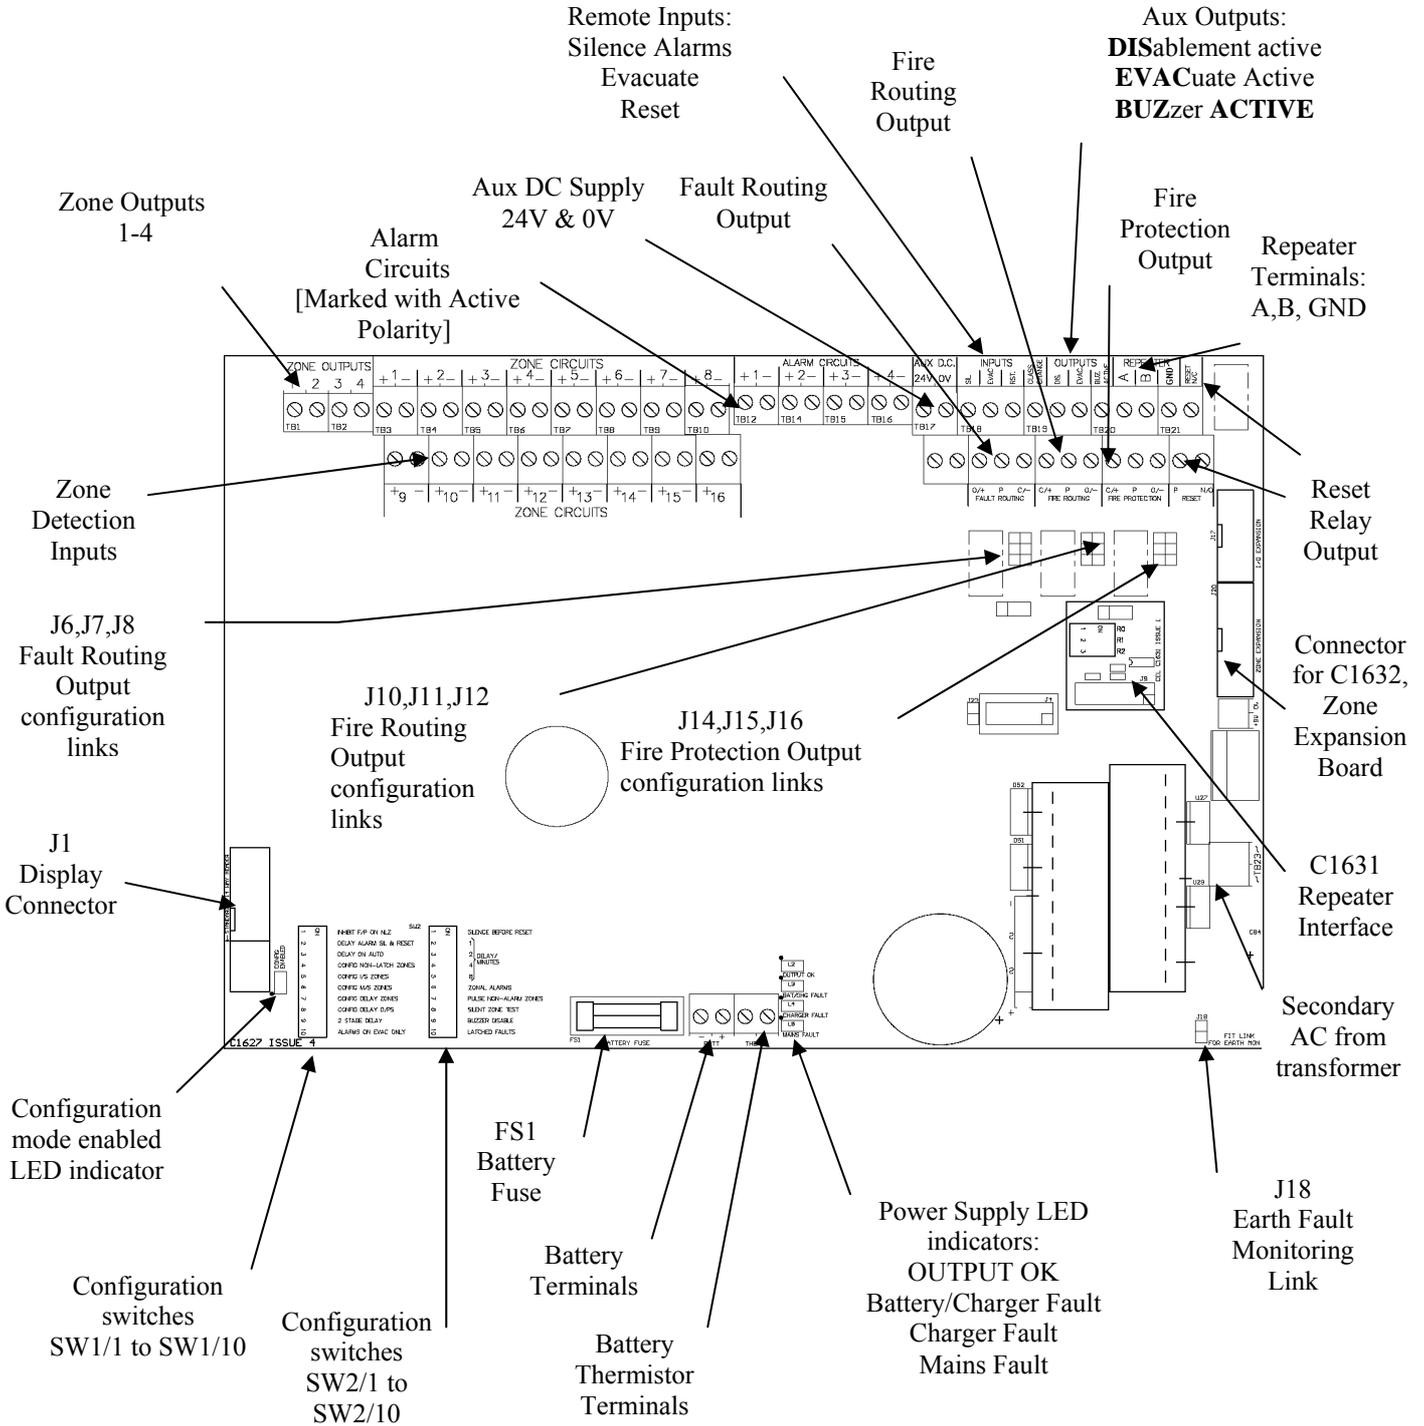
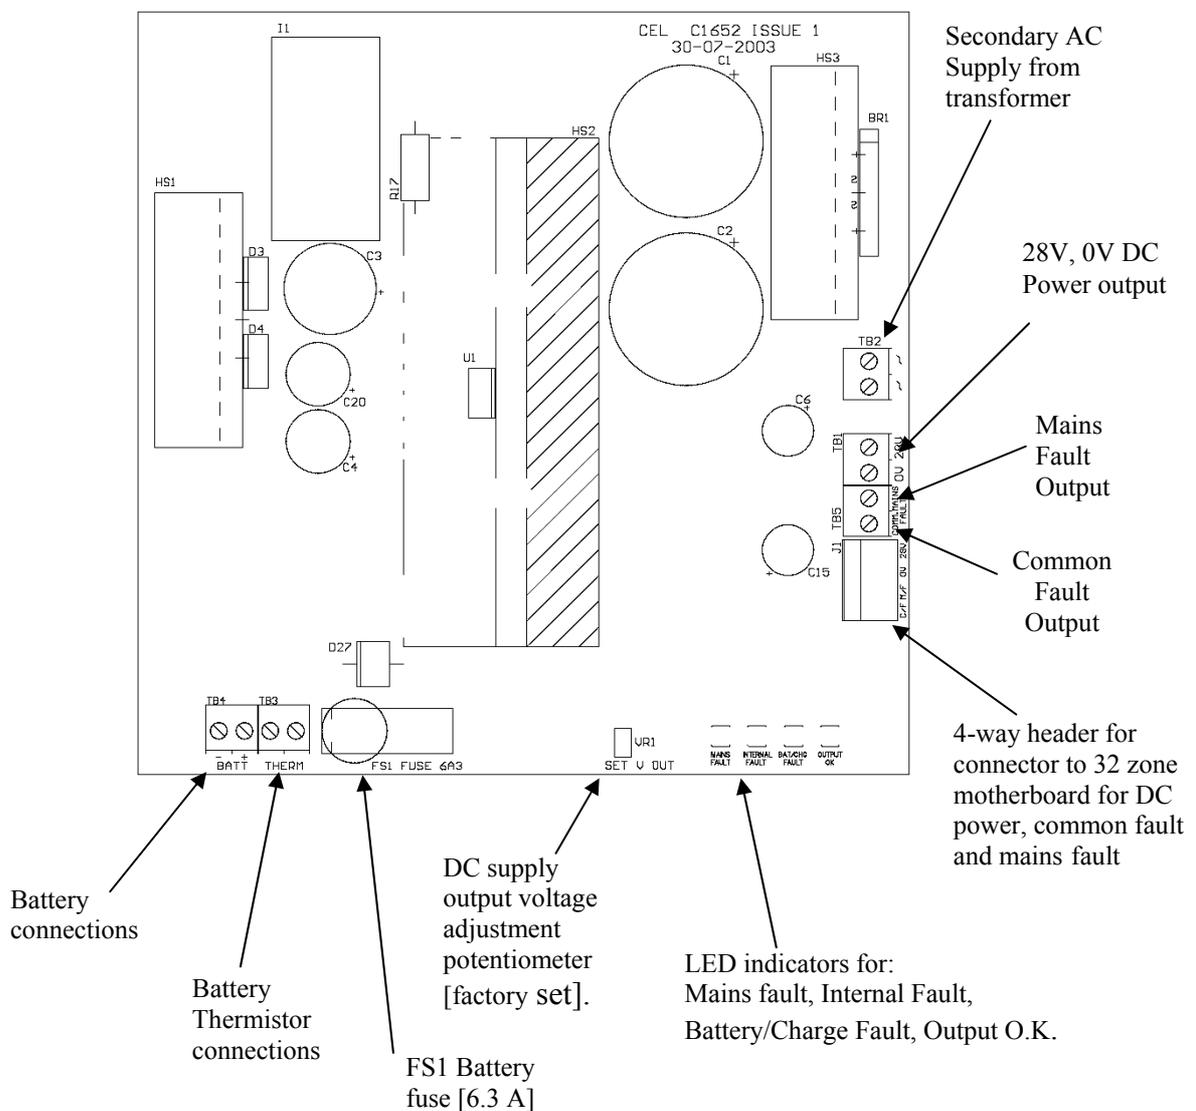

Figure 10 – C1627 Premier MX motherboard layout
Figure 12 – 32 zone Premier MX power supply layout
Figure 10 illustrates the motherboard features referred to elsewhere in the documentation.
Figure 12 shows the layout of the 32 zone Premier MX panel power supply.
26. Connect the black battery lead to the power supply “Batt -” [battery negative] terminal and connect the red battery lead to the power supply “Batt +” [battery positive] positive terminal [situated on the motherboard for the Premier MX 2/4, 8 and 16 panels and repeater panel or on the separate power supply board in the Premier MX 32 panel]. The location of the motherboard battery terminals are shown in Figure 10 – C1627 Premier MX motherboard layout and Figure 12 – 32 zone Premier MX power supply layout. Fit the connector on the end of the black lead onto the negative (black) terminal of the left-hand battery. Fit the connector on the end of the red lead onto the positive (red) terminal of the right-hand battery.